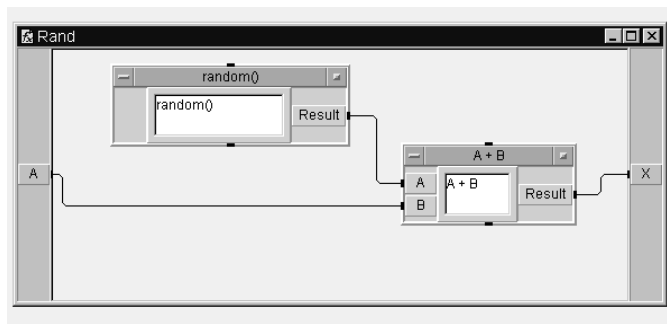

Figure 15.6. The Rand UserFunction
17. Connect the output of the A+B object to the Rand output terminal. Your result should look like Figure 15.6.